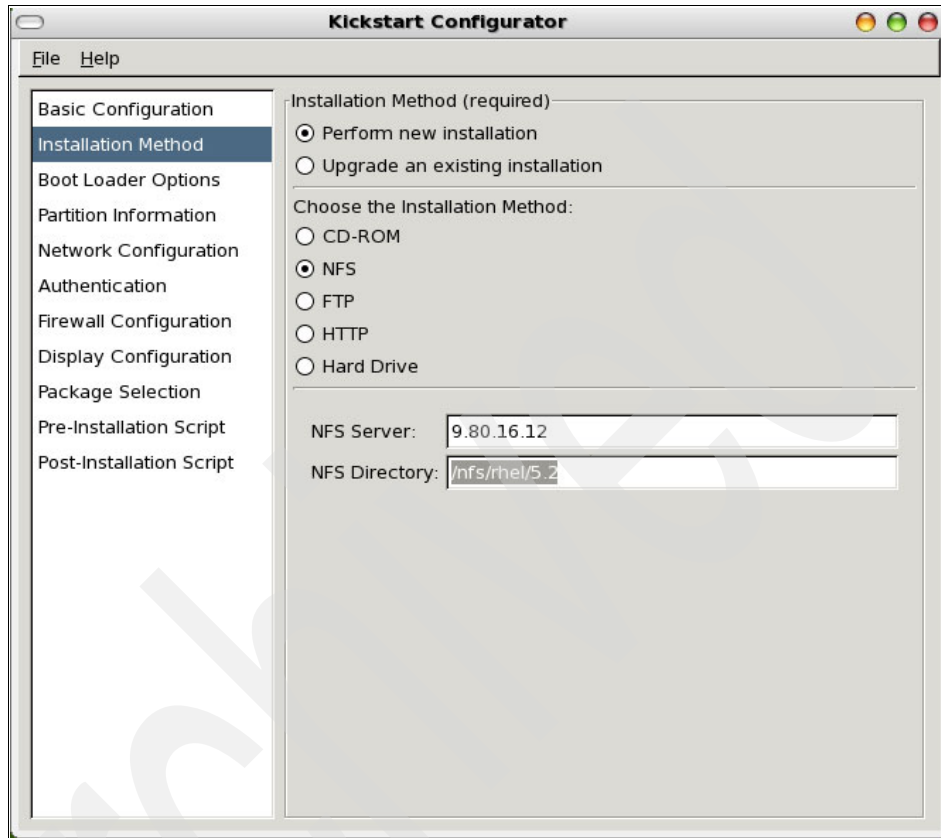

Figure B-2 Installation Method panel (©2008 Red Hat, Inc.)
3. In the Installation Method panel (shown in Figure B-2), all the basic parameters for a network installation using NFS are shown.